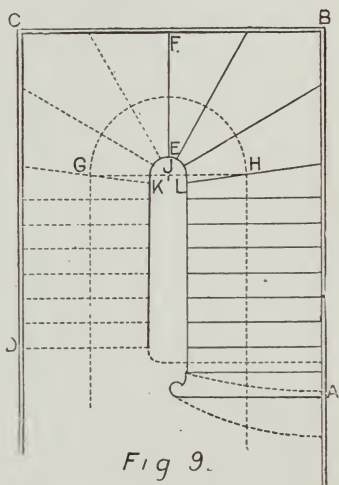
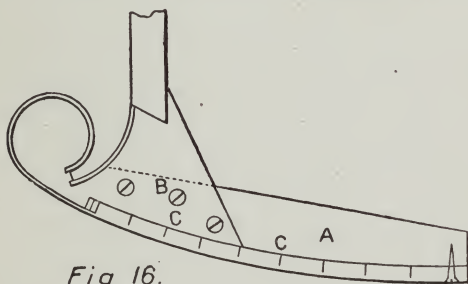

Fig 9.
Fig 16.
on account of the danger attending their use. Thus, the stairs shown in plan at Fig. 1 would be very much better with a half-space *landing* instead of a quarter-space and a quarter of winders as there shown. So also in the geometrical example as shown in plan at Fig. 9. If it be possible when planning a stairs to introduce a half-space *landing* in place of the
Let A B C D, Fig. 9, be the plan of the walls where a geometrical staircase is to be erected. The position of doorways either at the bottom or top, or wherever else they may occur if near the stairs, must be carefully noted, and the plan of the staircase laid down accordingly, as they should
A staircase such as we show in Fig. 9 is often required, and will generally come sufficiently clear of doors and windows to obviate any difficulty or necessitate any alteration when laying down the plan.
The commode steps shown by the dotted curves at the commencement of the plan in Fig. 9 may be constructed as shown in Fig. 16, where A is a supposed rib about $1\frac{1}{2}$ inch thick, having one edge
8. THE next subject for consideration is the “wreathed string” for the narrow ends of the winders at K E L, Fig. 9. But in the first place we must consider the *cylinder*, or more properly *semi-cylinder*, on which the wreathed string is glued-up to its proper form. The semi-cylinder is prepared as shown on Fig. 17, the width, K L, being made equal to the width or diameter of the well hole, or the distance in the clear between the faces of the strings, K L (Fig. 9). The semi-circle, unless it is larger than usual, is formed with two pieces of the required thickness, and the two straight sides of 1-inch board about 18 inches wide; the whole to be nailed to two legs cut to the required shape at top. The length should be sufficient to take the whole length of the string that is required to be glued-up.
carefully noted as they occur on the face of the string in the plan Fig. 9, their correct positions in the development on Fig. 18 will be easily determined. Transfer these as required to Fig. 18 and also one or two flyers above and below as shown. Draw the lines E F and G H parallel to the nosing-line of the flyers and at a distance from it, equal to the width of the string, producing the lower